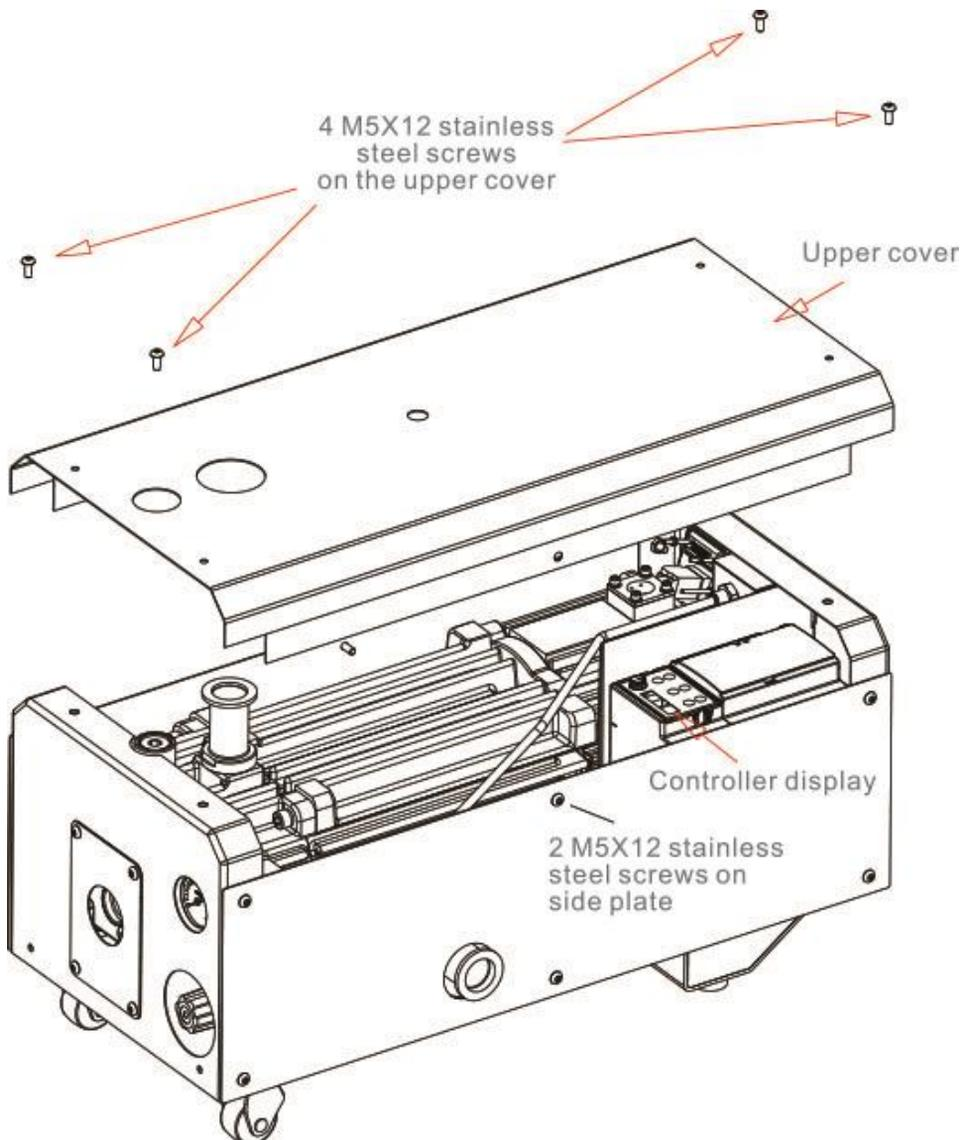

Figure 9
1. Remove 4 M5X12 stainless steel screws from the upper cover plate, as shown in Figure 9.
4. The location of controller display is shown in Figure 9.
Record the controller error code as per the requirements in Figure9.
1. Check whether the current of controller is normal according to the requirements in Figure9;